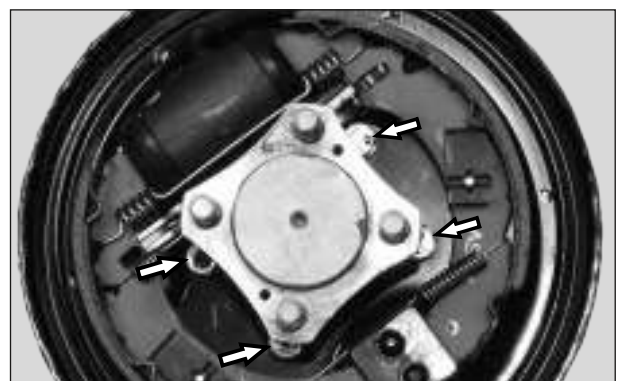

Fig. 5.71
- Loosen and remove 4 nos. hexagonal screw (M8x16) from back plate complete. (Fig. 5.71)